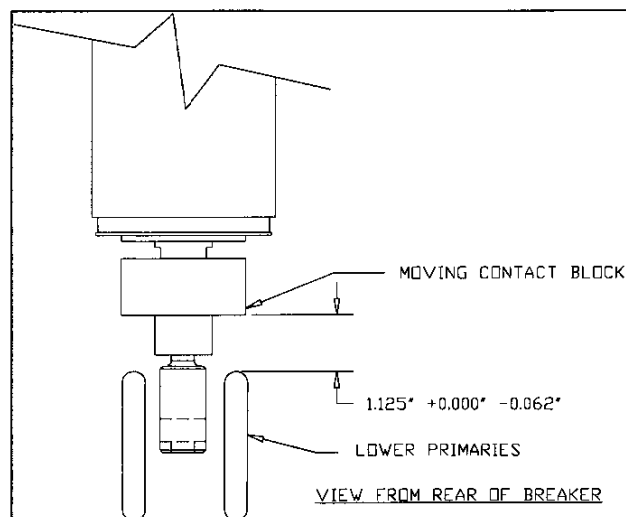

Figure 1. Moving Contact Block Measurements
- With closed contacts on a new vacuum interrupter, the bottom of the moving contact block should be 1.125" +0.00" -0.062" above the top of the lower main primary disconnect bars. See Figure 1.